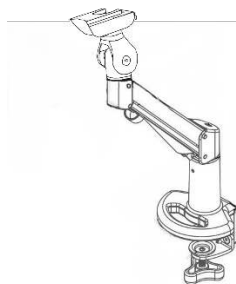

Figure 5 - Device Holder
6. **Device Holder** (Figure 5): it permits to support the device during the measurements. Its design allows the user to adjust the device height and angle to perform the test with the patient in the correct position.